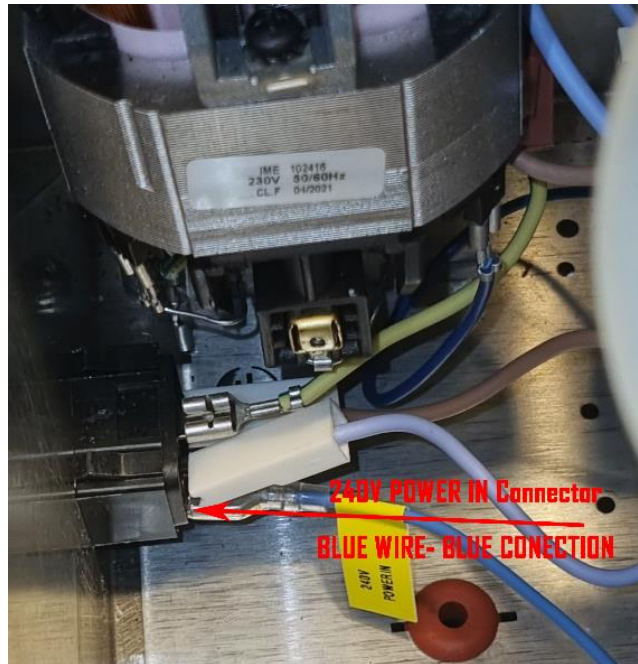

Fig. 6.13
- Next take the 240V POWER IN - BLEU wire that exit from the case from the small hole and connect it to the external 240v plug near the grinder motor. Make sure you connect the wire to the Original BLUE existent cable (fig. 6.13)